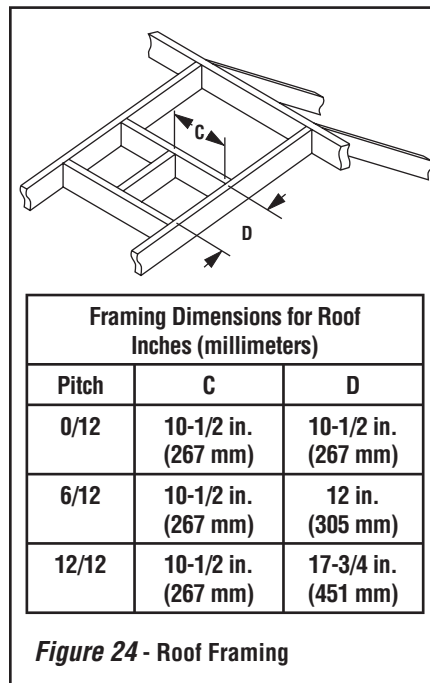

Figure 24 - Roof Framing
H. Frame roof opening - Identify location for vent at the roof. Cut and/or frame opening per Roof Framing Chart and *Figure 24*.